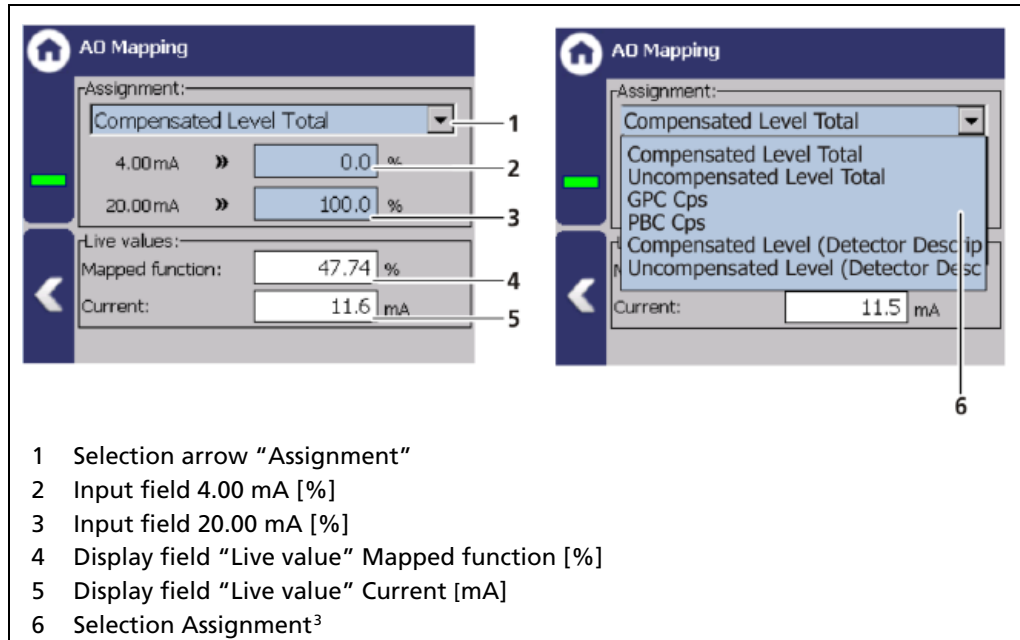
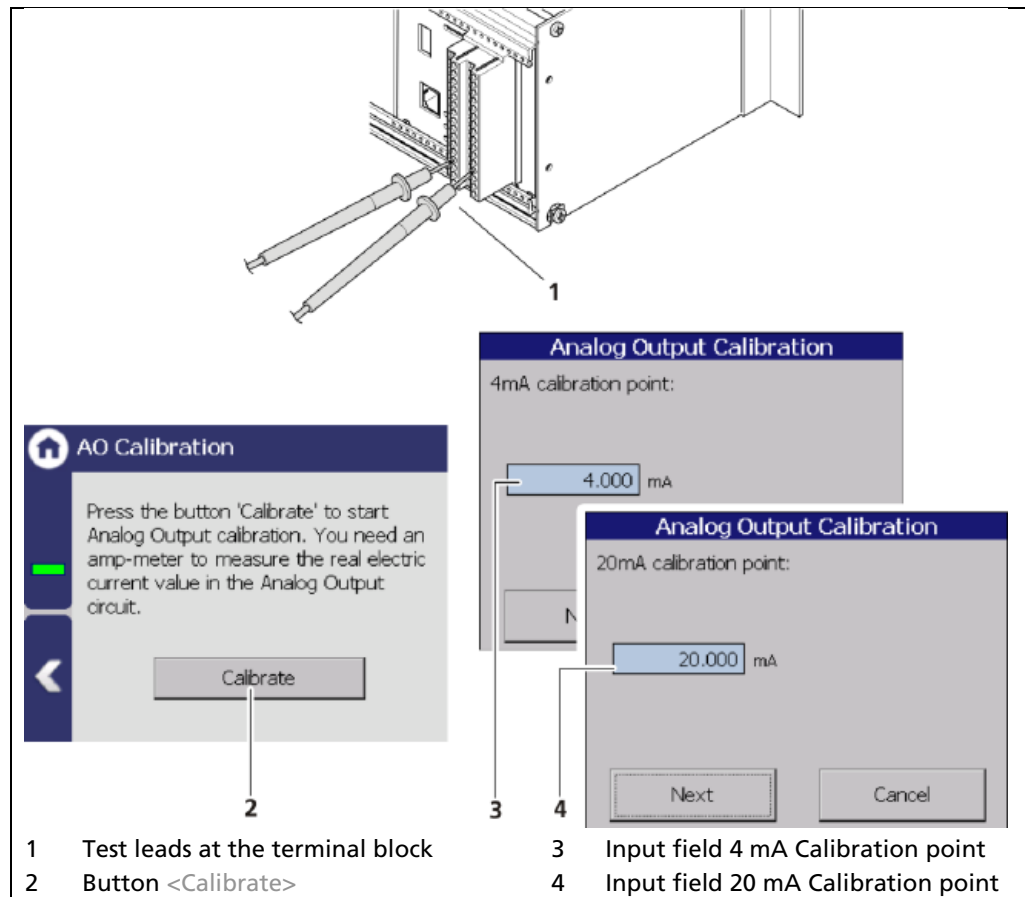

Fig. 99 Analog Output Mapping (Assignment)
Fig. 103 Analog Output (Calibration)
The lower and upper limit of the process range can be set in input field (Fig. 99, Item 2, item 3). These limits define the signal range of the analog current output (4 ... 20 mA). If required, the current output can also be set inversely (e.g. 4 mA = 100%, 20 mA = 0%).
1. Connect the test leads (Fig. 103, item 1) of the ammeter to the analog current output terminals on the rear of the EVU. Observe the terminal allocation in chapter 2.1 in the document "Technical Information".
2. Click on the button **<Calibration>** (Fig. 103, item 2).
3. Enter the indicated value on the current measuring instrument in the input box (Fig. 103, item 3).
5. Enter the indicated value on the current measuring instrument in the input box (Fig. 103, item 4).
The submenus of the additional outputs are identical to the AO submenus Fig. 99 Analog Output Mapping (Assignment) and Fig. 103 Analog Output (Calibration).